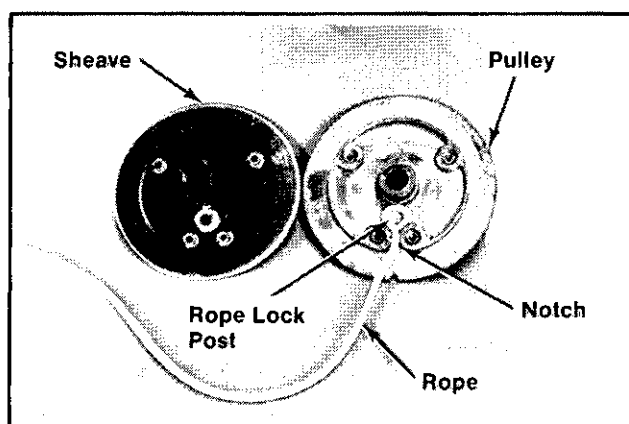

Figure 7-15. Replacing Rope.
3. Remove the 4 Phillips head screws securing the pulley and sheave. Separate the pulley and sheave and remove the old rope. Refer to Figure 7-15.